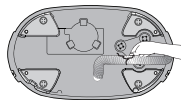

Fig. 1
- 1 Untie the Drain Hose from the back panel of the washing machine and position the Drain Hose as shown on Fig. 1: Place the mat or any cloth on the floor before laying down the unit to protect it from scratches. (Remove or Cut the Tie Wires left in the back panel of the washing machine.)
- a Untie the Drain Hose and the Tie Wires from the base (Fig. 1).